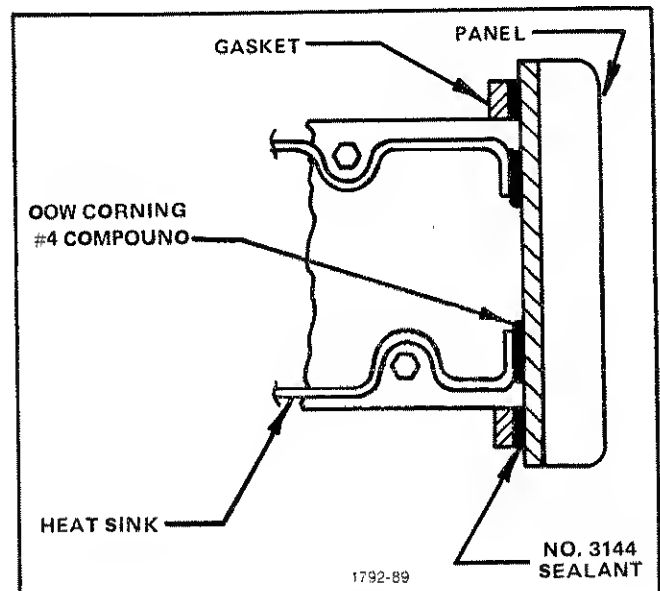

Fig. 5-36. Application of dielectric type compound.
3. Apply a film of Dow Corning No. 4. Compound to the mating surfaces of the heat sinks and the Panel and join as shown in Fig. 5-36.
5. Apply a film of No. 3144 sealant to the gasket and attach it to the Panel as shown in Fig. 5-36.